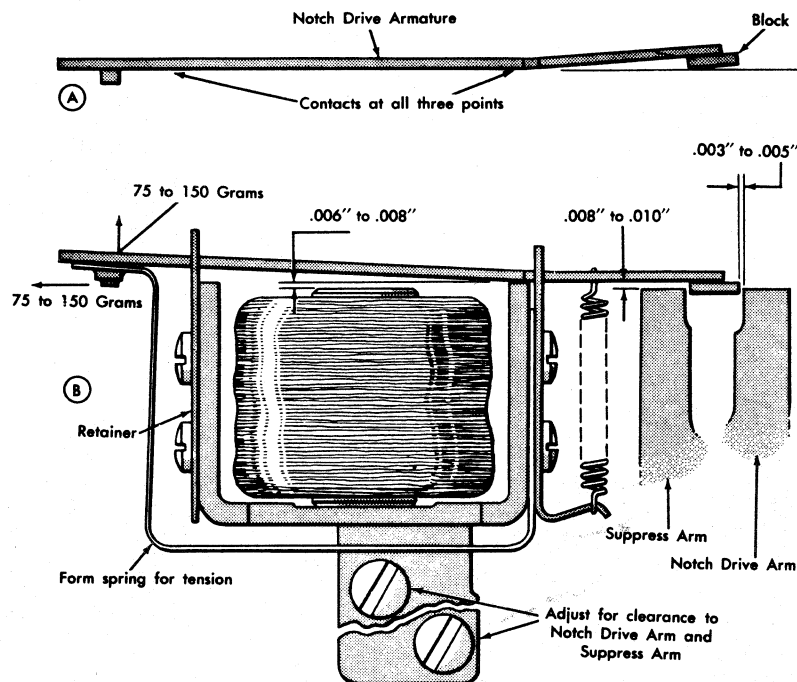

Figure 59. Notch Drive Magnet
1. Form notch drive magnet armature so that a straight edge contacts the three points shown in Figure 59. Armature should be free of binds and free to move across yokes. It should not bind in retainer.
3. Form armature spring for tensions indicated in Figure 59.